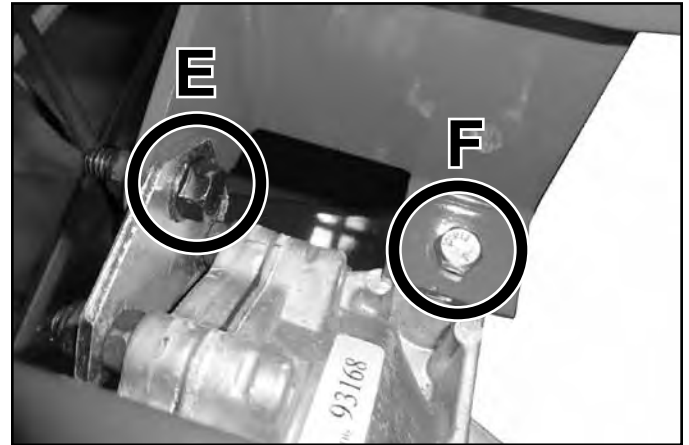

Fig. 072
1st - Torque fastener (E) to specification – 17 ft-lbs. (23 Nm) (Fig. 072)
2nd - Torque fastener (F) to specification – 17 ft-lbs. (23 Nm) (Fig. 072)